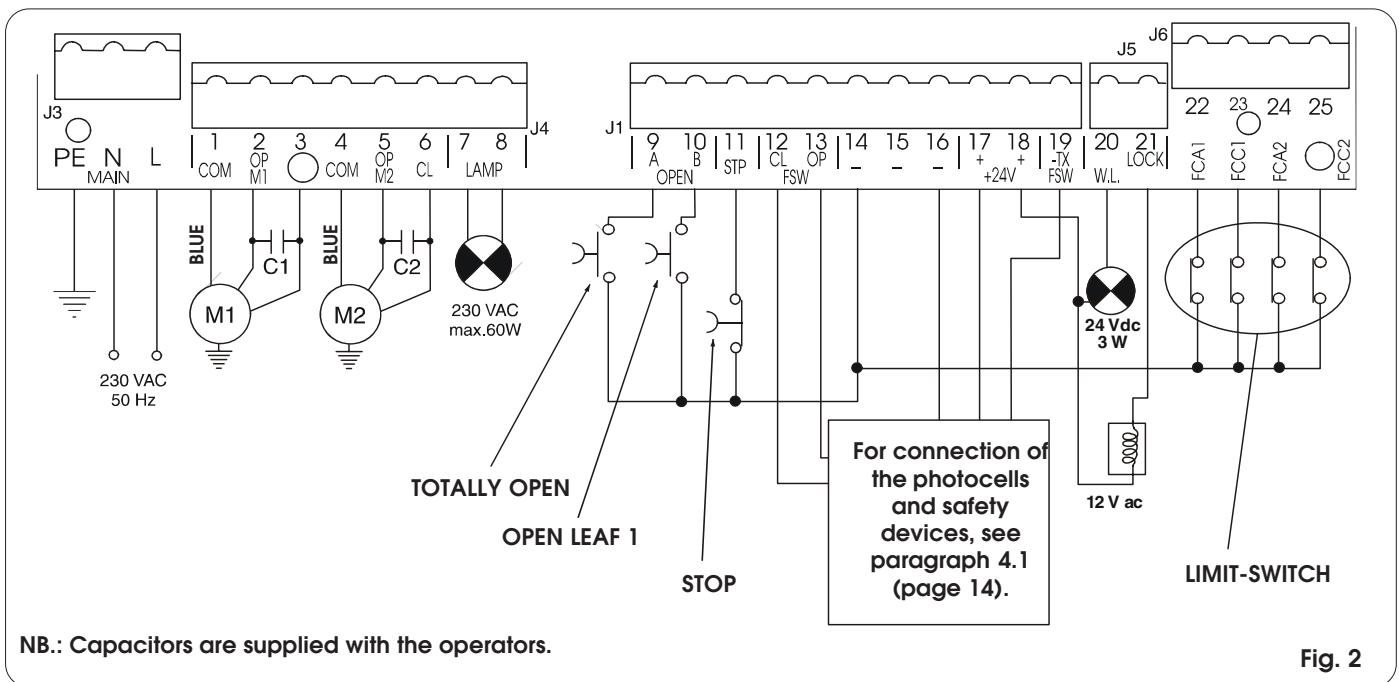

Fig. 2
- Connect the earth cable to the appropriate terminal on the J3 connector of the equipment (see fig.2).
4.2. TERMINAL BOARD J3 - POWER SUPPLY (FIG. 2)
4.3. TERMINAL BOARD J4 - MOTORS AND FLASHING LAMP (FIG. 2)
4.4. TERMINAL BOARD J1 - ACCESSORIES (FIG. 2)
4.5. TERMINAL BOARD J5 - INDICATOR-LIGHT AND ELECTRIC LOCK (FIG.2)
4.7. TERMINAL BOARD J6 - LIMIT-SWITCHES AND/OR GATE-CODER (FIG.2)